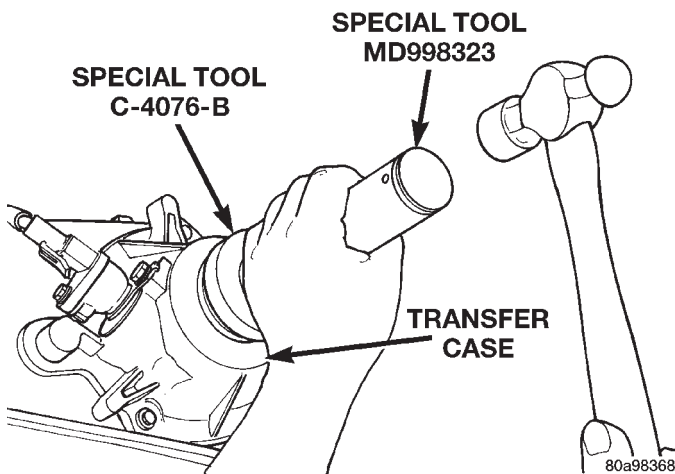

Fig. 89 Rear Seal Installation
- (9) Slide Installer C-4076-B onto seal protector with the recessed side of the tool toward the seal. Drive seal into rear bearing retainer with installer C-4076-B and handle MD-998323 (Fig. 89).
- (10) Install rear slinger with installer C-4076-A and handle MD-998323 (Fig. 89).